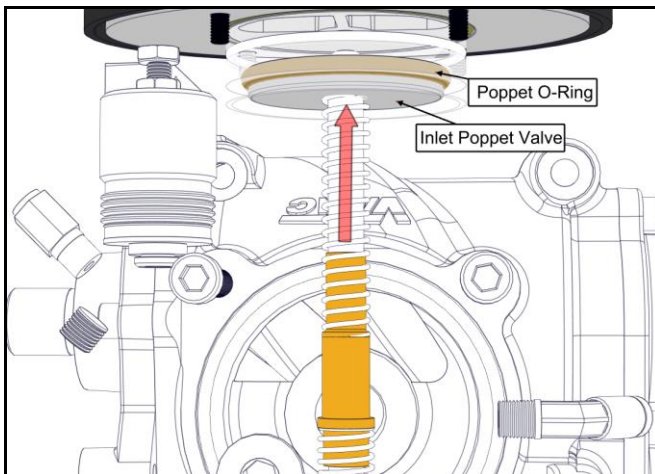

Figure 61 – Poppet valve closed
- If the poppet valve is closed the compressor will not build air pressure (Figure 61).